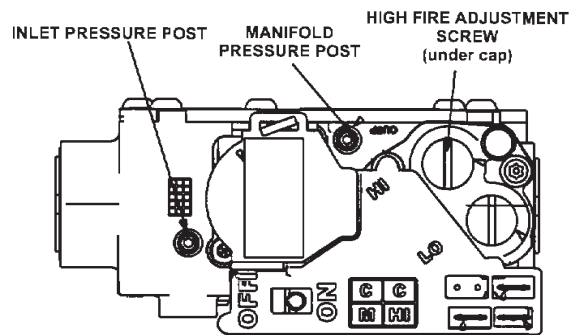

Figure 45. Gas Valve Shown in the ON Position
Gas Valve Operation (Figure 45)
6. Move gas valve switch to OFF. See **Figure 45**.
8. Move gas valve switch to ON. See **Figure 45**.
An inlet post located on the gas valve provides access to the supply pressure. See **Figure 45**. Back out the 3/32 hex screw one turn, connect a piece of 5/16 tubing and connect to a manometer to measure supply pressure. See **Table 19** for supply line pressure.
A manifold pressure post located on the gas valve provides access to the manifold pressure. See **Figure 45**. Back out the 3/32 hex screw one turn, connect a piece of 5/16 tubing and connect to a manometer to measure manifold pressure.
4. After allowing unit to stabilize for 5 minutes, record low fire manifold pressure and compare to value given in Table 19. If necessary, make adjustment. Figure 45 shows location of low fire adjustment screw.
5. Repeat on high fire and compare to value given in Table 19. If necessary, make adjustment. Figure 45 shows location of high fire adjustment screw.